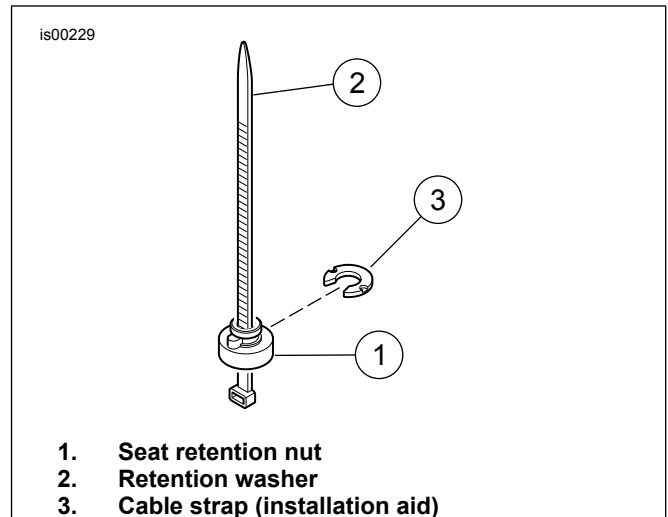
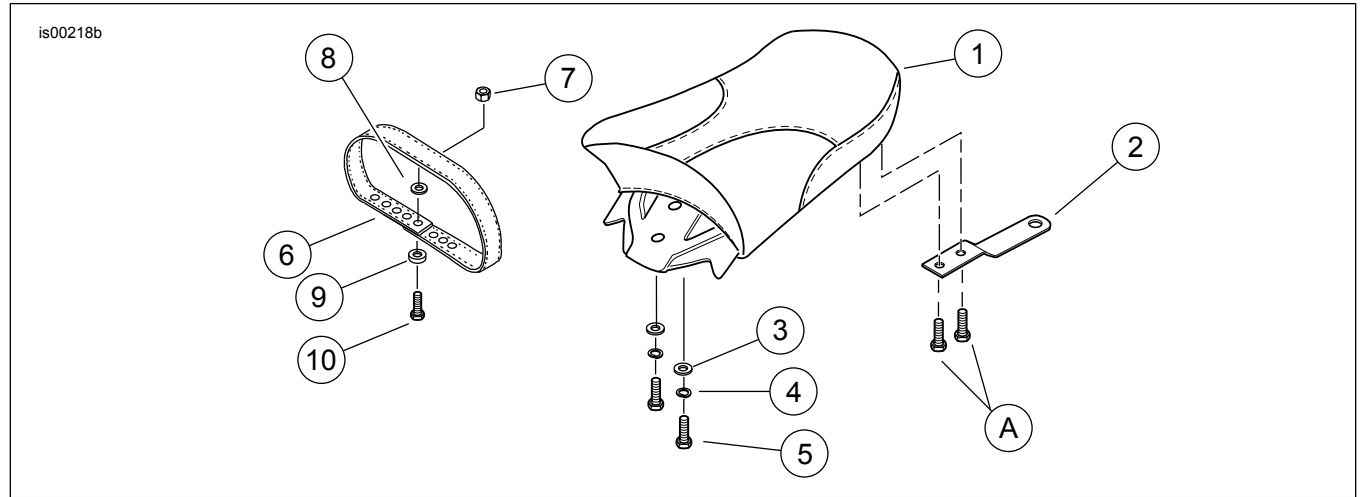

Figure 2. Retention Nut Installation
Figure 5. Service Parts: Dyna Passenger Pillion Seat
See Figure 5 and Table 1.
1. See Figure 2. A cable strap may be used as an installation aid to remove and install the retention nut and washer. Place the retention nut (1) over the cable strap (3) so the wide end of the nut rests on the eye of the cable strap. Thread the cable strap up under the fender and through the rearmost fender hole. Pull up on the cable strap to hold the nut snug against the underside of the fender.
2. With the rib on the retention nut seated into the notch in the fender hole, slide the retention washer (2) into place from the rear. This will lock the retention nut in place. Remove the cable strap.
3. See Figure 5. Obtain the grab strap (6), flange screw (10), retention nut (9), washer (8) and hex nut (7) from the kit. If the vehicle has a grab strap installed, skip to Step 5.
6. See Figure 5. Install stock seat bracket (2) to pillion with stock cap screws (A).
7. Fasten passenger pillion seat to bottom of solo saddle with cap screws (5), lockwashers (4) and flat washers (3). Tighten cap screws securely.